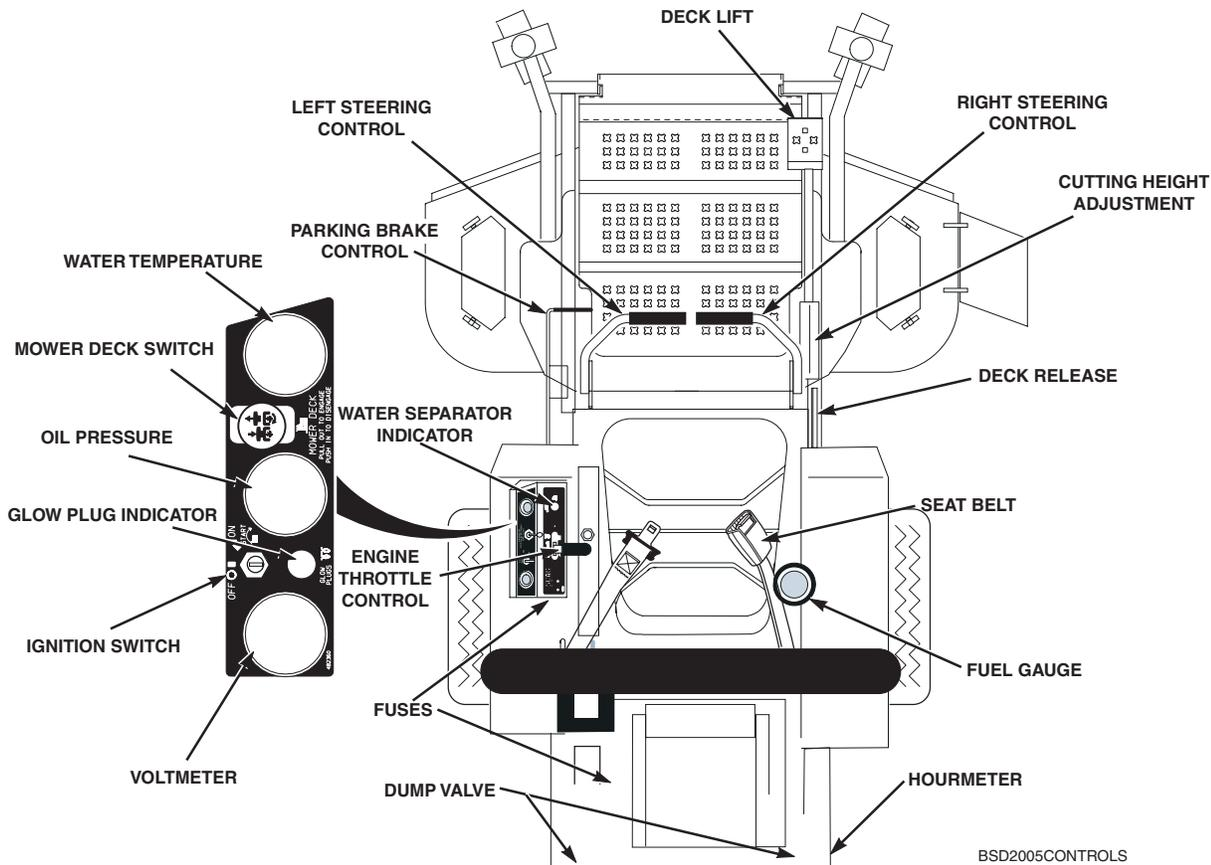

Figure 4-1 Controls and Instruments
1. Ignition Switch (Figure 4-1). The ignition switch is used to start the engine and has three positions; OFF, ON, and START.
2. Water Separator Indicator (Figure 4-1). Amber indicator turns on when the Water Separator is full and needs to be cleaned out.
3. Mower Deck Switch (Figure 4-1). Used to engage and disengage the mower drive system. Pulling up on the switch will engage the deck drive. Pushing down on the switch will disengage the deck drive.
4. Glow Plug Indicator (Figure 4-1). Yellow indicator turns off when the glow plugs have been properly heated after the ignition switch is turned on.
5. Engine Throttle Control (Figure 4-1). Used to control the engine speed. Pushing the lever forward increases engine speed. Pulling the lever back decreases engine speed. Full back position is the IDLE position. Full forward is the cutting position.
6. **Voltmeter (Figure 4-1).** Indicates the condition of the charging system. When the engine is running, in normal operating conditions, the needle should be in the 12 to 14 volt range.
7. **Oil Pressure (Figure 4-1).** Indicates engine oil pressure. Reference the engine operator's manual for further information.
8. **Hourmeter (Figure 4-1).** Indicates the number of hours the engine has been operated. It operates whenever the engine is running. It can be used to keep track of maintenance intervals and the amount of time required to perform various tasks.
9. **Fuse Holders (Figure 4-1).** There are two 20-amp fuses and one 40-amp fuse that protect the mower's electrical system. To replace fuses, pull fuse out of the socket and install a new fuse.
10. **Left Steering Control (Figure 4-1).** Used to control the mower's left wheel when traveling forward or reverse.
11. **Right Steering Control (Figure 4-1).** Used to control the mower's right wheel when traveling forward or reverse.
12. **Parking Brake Control (Figure 4-1).** Used to engage and disengage the parking brakes. Pull the lever back to engage the parking brakes. Push the lever forward to disengage the parking brakes.
13. **Fuel Tank Gauge (Figure 4-1).** Indicates the amount of fuel in the fuel tank.
15. **Deck Lift Foot Lever (Figure 4-1).** Used to raise and lower the cutter deck.
16. **Cutting Height Adjustment (Figure 4-1).** Used to set the cutter deck at the desired cutting height.
17. **Deck Release Lever (Figure 4-1).** Used to lock the cutter deck in the transport position. Push the foot pedal forward and lift up on the release lever to release the cutter deck for normal mowing.
18. **Temperature Gauge (Figure 4-1).** Indicates the operating temperature of the engine.
19. **Seat Belt (Figure 4-1).** Used to secure the operator. Seat belt must be worn at all times during operation.